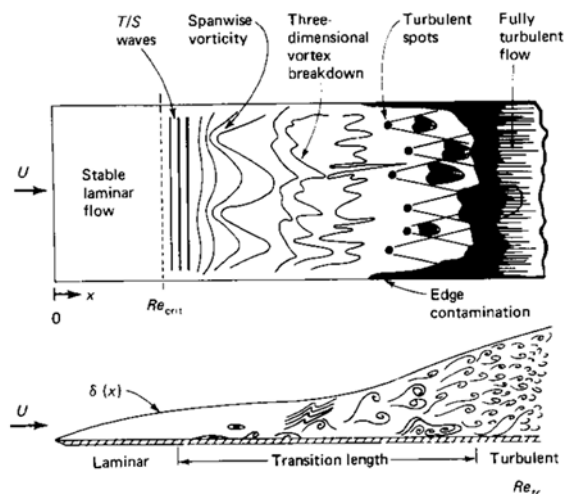

Figure 1: Natural transition of a laminar-turbulent boundary layer on a smooth flat plate
Flow in contact with a wall is assumed to match the velocity of the wall (no-slip condition). Thus moving away from the wall, the fluid must transition from the velocity of the wall to the velocity of the freestream, which is the primary flow velocity. This creates a region called the boundary layer in which the flow speed is between the wall and the freestream. The thickness of the boundary layer is often labeled as δ . In the case of flow over a stationary flat plate, this thickness increases as the flow moves down the plate as shown in Fig. 1.
Initially, this example assumes the flow is laminar on the first part of the plate. Ideally, laminar flow has streamlines that do not interact and the flow moves in roughly parallel planes. However, as the flow moves further along the plate, small vortices begin to form near the surface. As these vortices decay, the flow becomes increasingly turbulent. Turbulent flow exhibits strong mixing of mass, momentum, and energy through vortices and eddies. The process of shifting from laminar flow to turbulent flow is called transition, and it is a complex process which can take multiple forms, one of which is shown looking down on the plate in Fig. 1.
2. Compute the difference at each y/δ point between the experimental normalized velocity and both the laminar and turbulent approximations in equations 3 and 4. Place these differences in a table in your report. These differences can be multiplied by 100 to obtain the local percent error (you do not need to divide the difference in this case since all of the values are normalized already). These local percent errors should be aggregated together and averaged to obtain a mean percent error for that comparison. This should be done for four cases: smooth (experiment) vs. laminar (theory), smooth (experiment) vs. turbulent (theory), rough (experiment) vs. laminar (theory), rough (experiment) vs. turbulent (theory). Discuss these percent errors as indications of whether or not laminar or turbulent flow was observed in each side of the plate (it might not be smooth = laminar, rough = turbulent; if neither, what would it be? Refer to Fig. 1 to help answer this). Also discuss possible sources of error in these results and their possible effects.